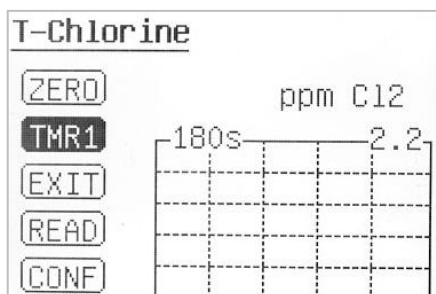

Figure 9 Single Timer Method
Most of colorimetric methods have only one timing step. As an example, in the DPD total chlorine method, it takes three minutes for the DPD powder reagent to completely react with chlorine in the water sample. The DPD total chlorine method has a single three-minute timing step. Figure 9 shows the main page of a method with a single timing step.
1. Place the sample vial filled with the water sample in the Pyxis SP-900 sample vial compartment and press the **ZERO** button. Pyxis SP-900 will display the page shown in Figure 9.